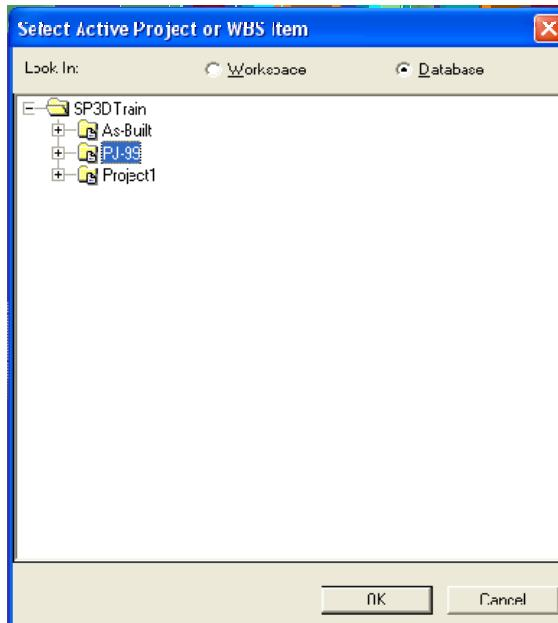

Figure 3: Select Active Project or WBS Item Dialog Box
5. Select the **Database** option to see all the WBS projects in the displayed dialog box and then select **PJ-99**, as shown in Figure 3, to specify **PJ-99** as an active project.